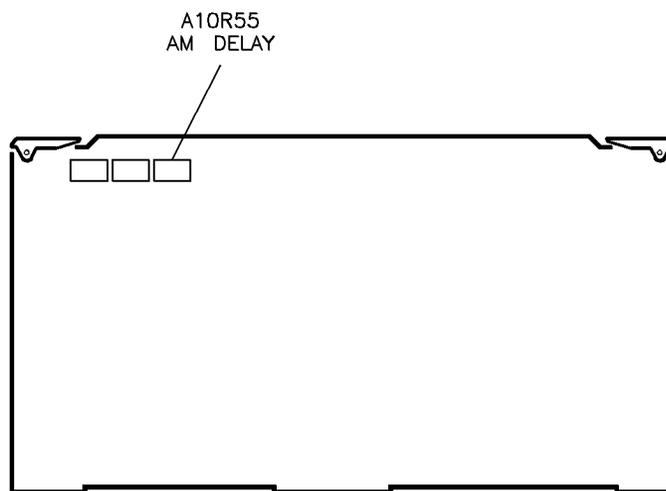

Figure 3-31. AM Delay Adjustment Location
- Adjust A10R55 (see Figure 3-31) for a minimum AC voltage reading on the DVM.